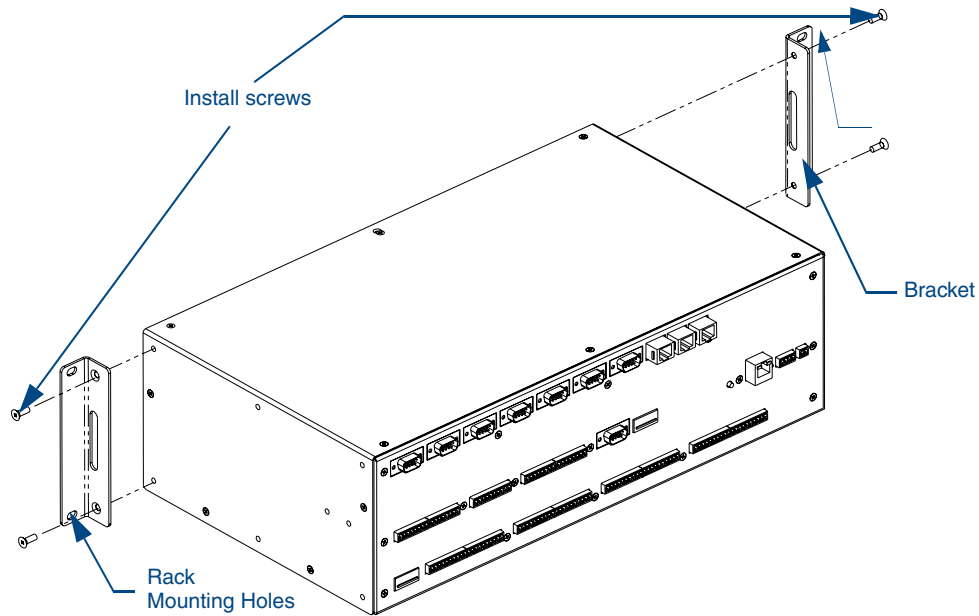

FIG. 5 Mounting Integrated Controller into an equipment rack
2. Position and install the mounting brackets, as shown in FIG. 5, using the screws supplied with the unit. The mounting brackets can be rotated to accommodate your mounting needs.
5. Slide the unit into the rack until the attachment holes, along both sides, align to their corresponding locations on the mounting brackets, as shown in FIG. 5.